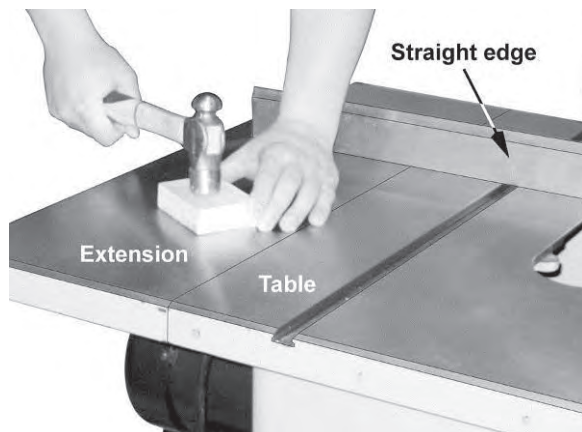

Figure 3
4. Level the extension wing with the saw table across its entire width (Figure 3) using a straight edge and hammer with block of wood (or rubber hammer).